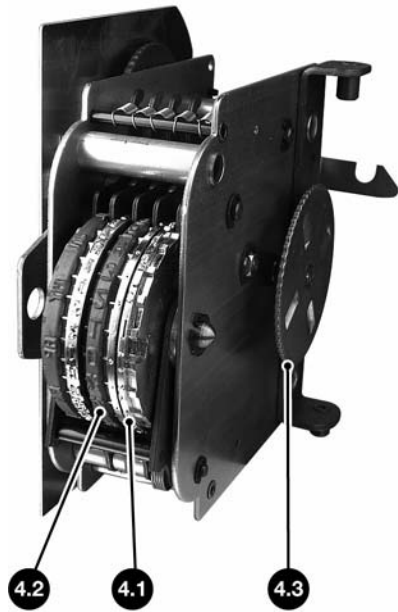

Figure 4
1. Rotate Tenth's Wheel (0.9)- **Figure 4, 4.1** until it is set at "9" Rotate the Main Setting - **Figure 4, 4.3** until the Tenth's Wheel moves to a "0". (This is the zero minute.)
2. Set the Hour Wheel - **Figure 4, 4.2** to the current Hour.
4. Rotate the Main Setting Wheel - **Figure 4, 4.3** to advance both the Clock Face and Print Wheels together. Rotate until you pass the actual time by one minute (each "click" indicates one minute.)